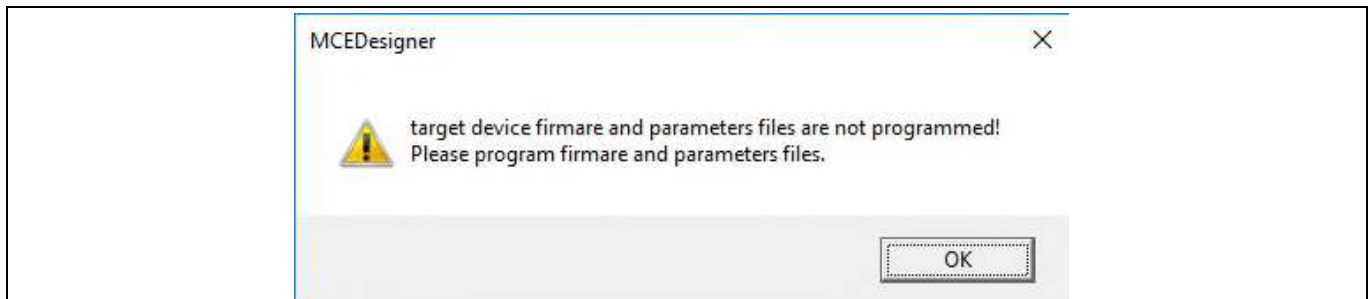

Figure 7 MCEDesigner warning message
8. In case of blank IC: If the firmware has been erased from the IMC101T, a warning message will pop up (Figure 7) saying “Target device firmware and parameters files are not programmed! Please program firmware and parameters file.” See step 9 on how to obtain/program firmware and parameters.